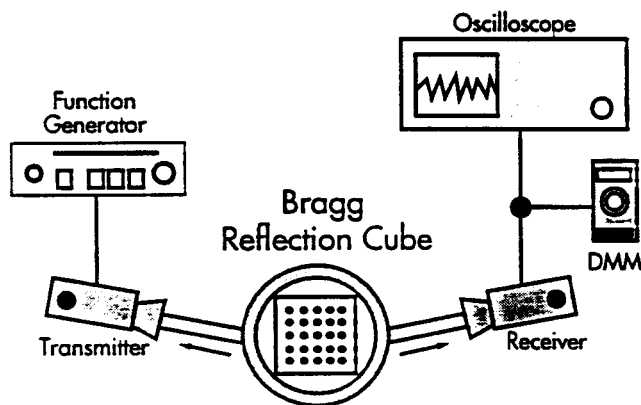

Fig 3: Transmission of waves from Bragg Reflection Cube
4. Complete the setup as shown in figure 3. Adjust the function generator to produce a 4kHz square wave with minimal gain. The oscilloscope should be switched to AC with the time per division at about  $50\mu s$ . The voltage per division should be set at 50mV and adjusted as necessary. If also using a digital multimeter, set it to 2VAC. Verify that the multimeter is capable of measuring an AC signal at 4kHz.